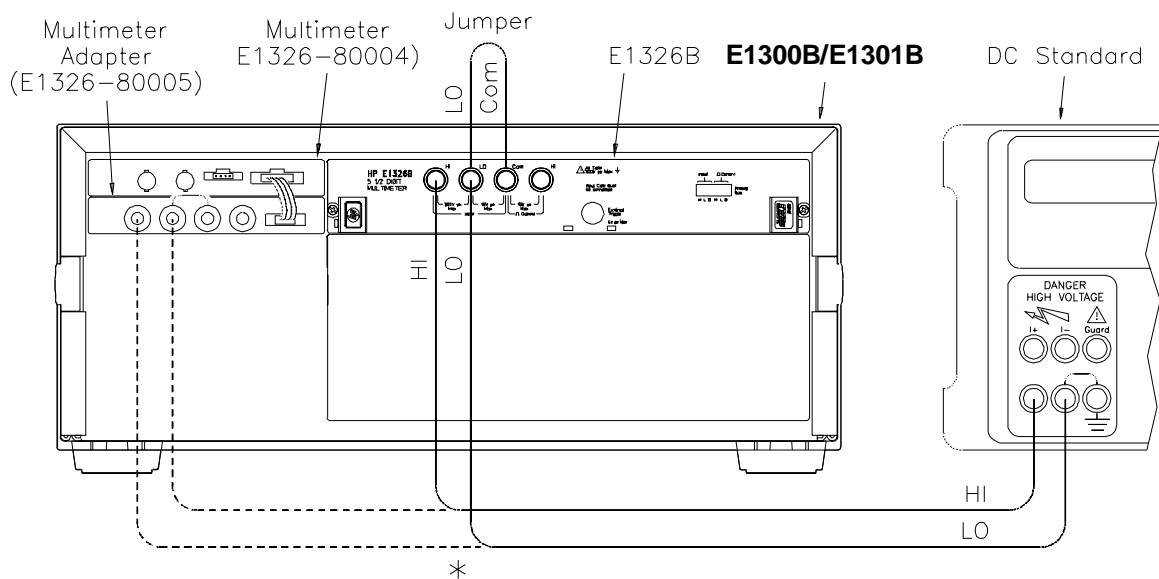

Figure 5-1. DC Voltage Adjustment Setup
1. Connect the equipment as shown in Figure 5-1. You can connect to the E1326B OR the E1326-80005 terminals, but not to both.